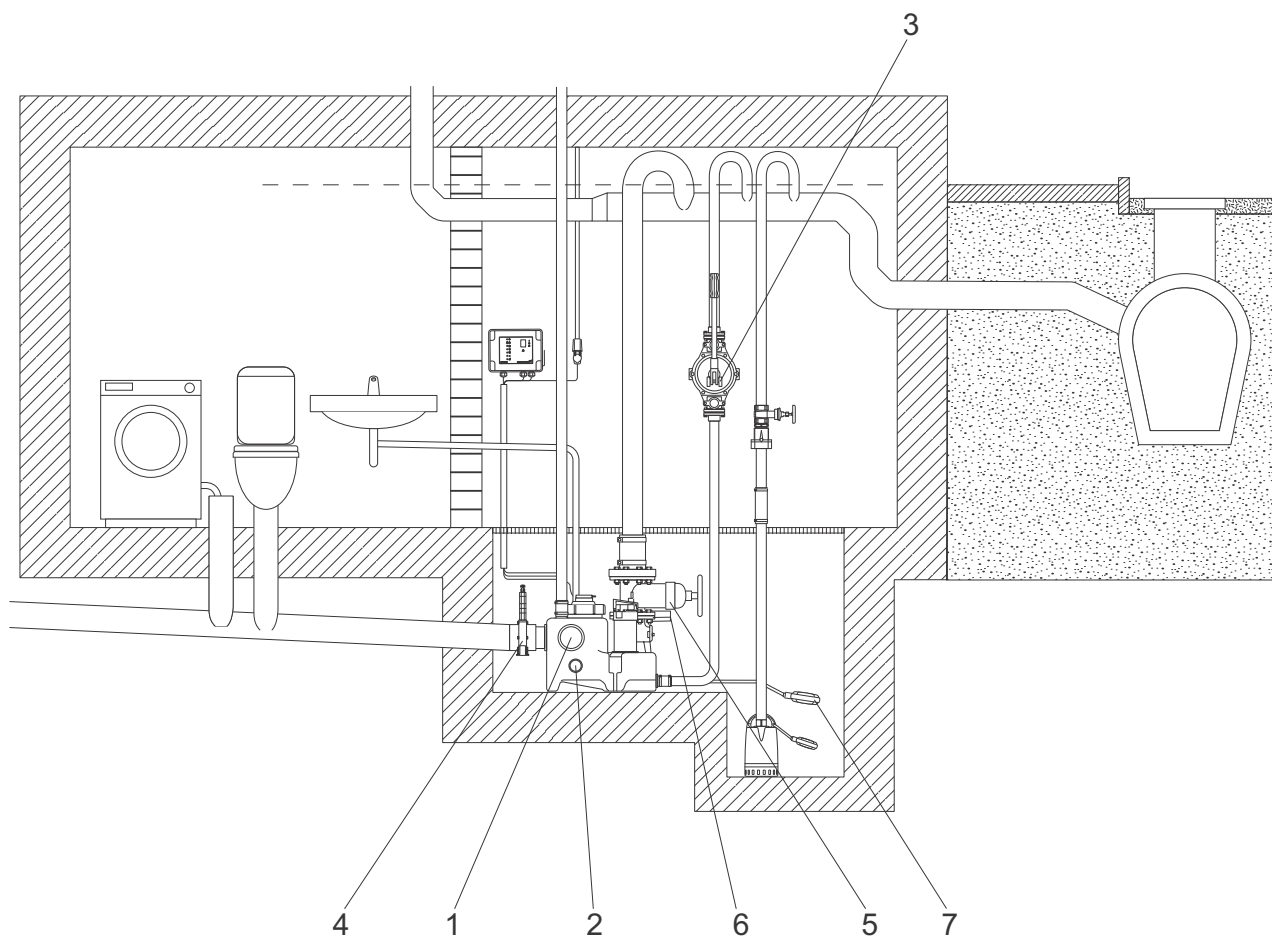

Fig. 10 Installation sketch
- Provide a pump sump below the floor level. If a lifting station is installed in a basement with the risk of penetrating groundwater, it is advisable (in certain countries required) to install a drainage pump in a separate pump sump below floor level in order to drain the room. See fig. 10.